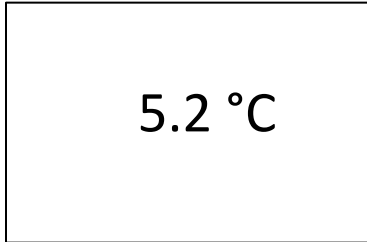

Figure 12: xFridge Temperature Display
- a) Displays Control Temperature, as illustrated in Figure 12.